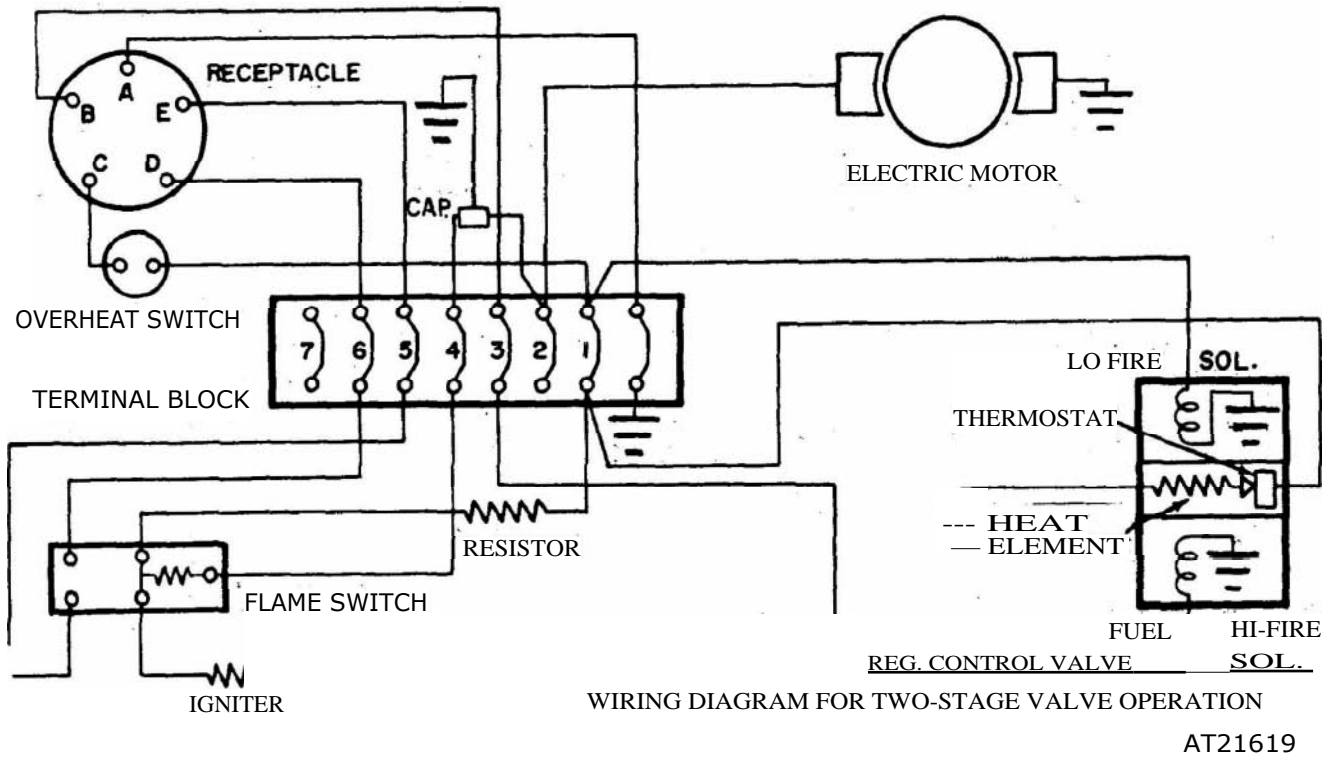

Figure 3-246. Ambulance heater wiring diagram.
(10) Position air inlet (23) on electric motor (22) and secure with screw (41). Position inlet plate (24) and combustion fan (25) on electric motor (22) shaft. Secure combustion fan to motor shaft with setscrew (42).
(11) Position assembled electric motor (22) in burner (27) and secure with screw (40).
(12) Position fresh air fan (17) on electric motor (22) shaft and secure with setscrew (16).
(13) Connect cover (18) and plate (19) and secure with screws (20 and 21).
(14) Connect resistor (36) and name plate (37) and secure with screws (35) and (38).
(15) Connect bracket (13) to regulator valve assembly (11) and secure with screw (14). Connect assembled bracket and regulator valve assembly to burner casing and secure with screw (12).
(16) Install gasket (31), elbow (43), and ignitor (45) in burner (27). Connect fuel tube (44) to regulator valve assembly (11) and elbow (13).
(17) Connect burner casing (15), casing (34), and combustion chamber (39) and secure with screw (32).
(18) Connect limit switch (5) and terminal block (6) to combustion chamber (39) and secure with screws (4 and 7). Install flame switch assembly (1).
(19) Connect receptacle (3) and secure with screw (2).
(20) Connect capacitor (33) and electrical wiring in accordance with tag designations or refer to fig 3-246.
(21) Connect flame switch guard (8) and secure with screw (9). Install cover (10).